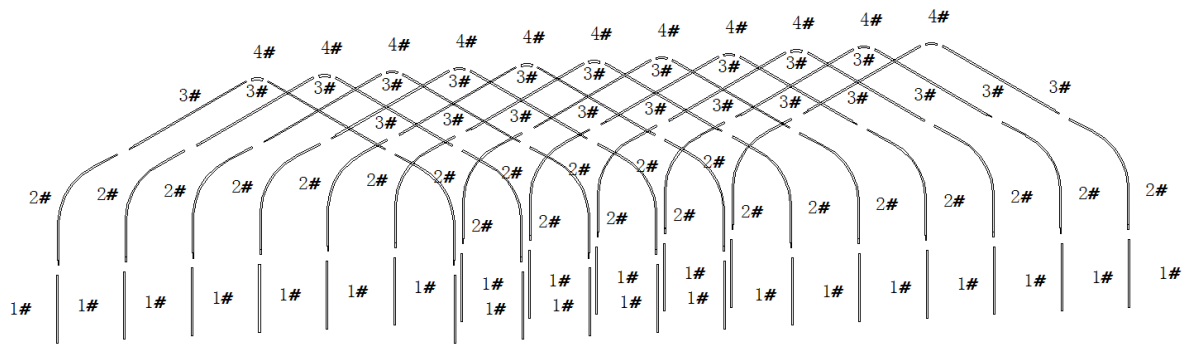

Figure 5
- Connect the Top tubes (No. 3) using connectors (No. 4), as illustrated in Figure 5.